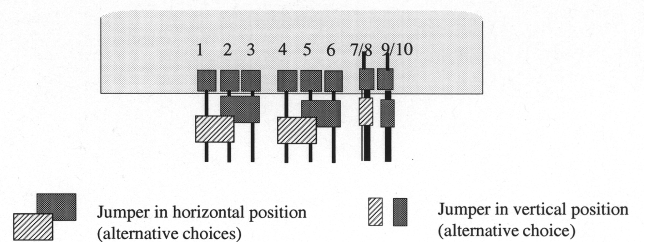

Fig. 5 Jumper positions
9. Select the required output ranges by setting the three coding jumpers accordingly to Table 1. The default settings are for 0...10Vdc outputs as indicated by the darker jumper positions in Fig. 5. The outputs have to be configured before the unit is connected to the power supply. Do not change jumper positions when power is on.